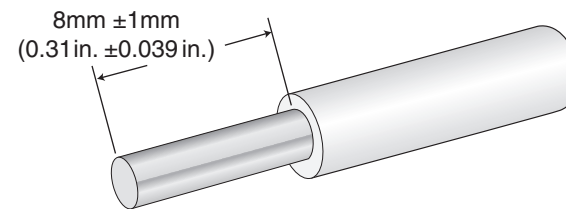

Figure 7. Stripped Wire
4. With a 14-gauge wire-stripping tool, strip the three wires in the tray cable coming from the DC input power source to $8\text{mm} \pm 1\text{mm}$ (0.31 in., ± 0.039 in.), as shown in Figure 7.